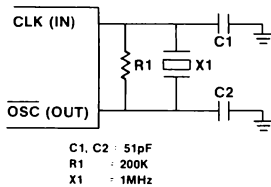

Figure 4. Crystal Circuit for Internal Oscillator
**Clock In (CLK(IN))**—The microcomputer contains an internal clock generator operating at four times the  $\phi 2$  frequency. The frequency of these clocks is externally controlled by a crystal oscillator circuit as shown in Figure 4. The internal generator may also be controlled by an input signal from any external clock source.
**Oscillator Out ( $\bar{OSC}$ (OUT))**—An inverter whose input is CLK(IN) and output is  $\bar{OSC}$ (OUT) is connected between these two clock pins. This active low inverter has sufficient loop gain to provide oscillation using a crystal. Frequency deviation, usually less than 0.05%, will affect the tone output frequency. There is a bias resistor mask option between the two pins.